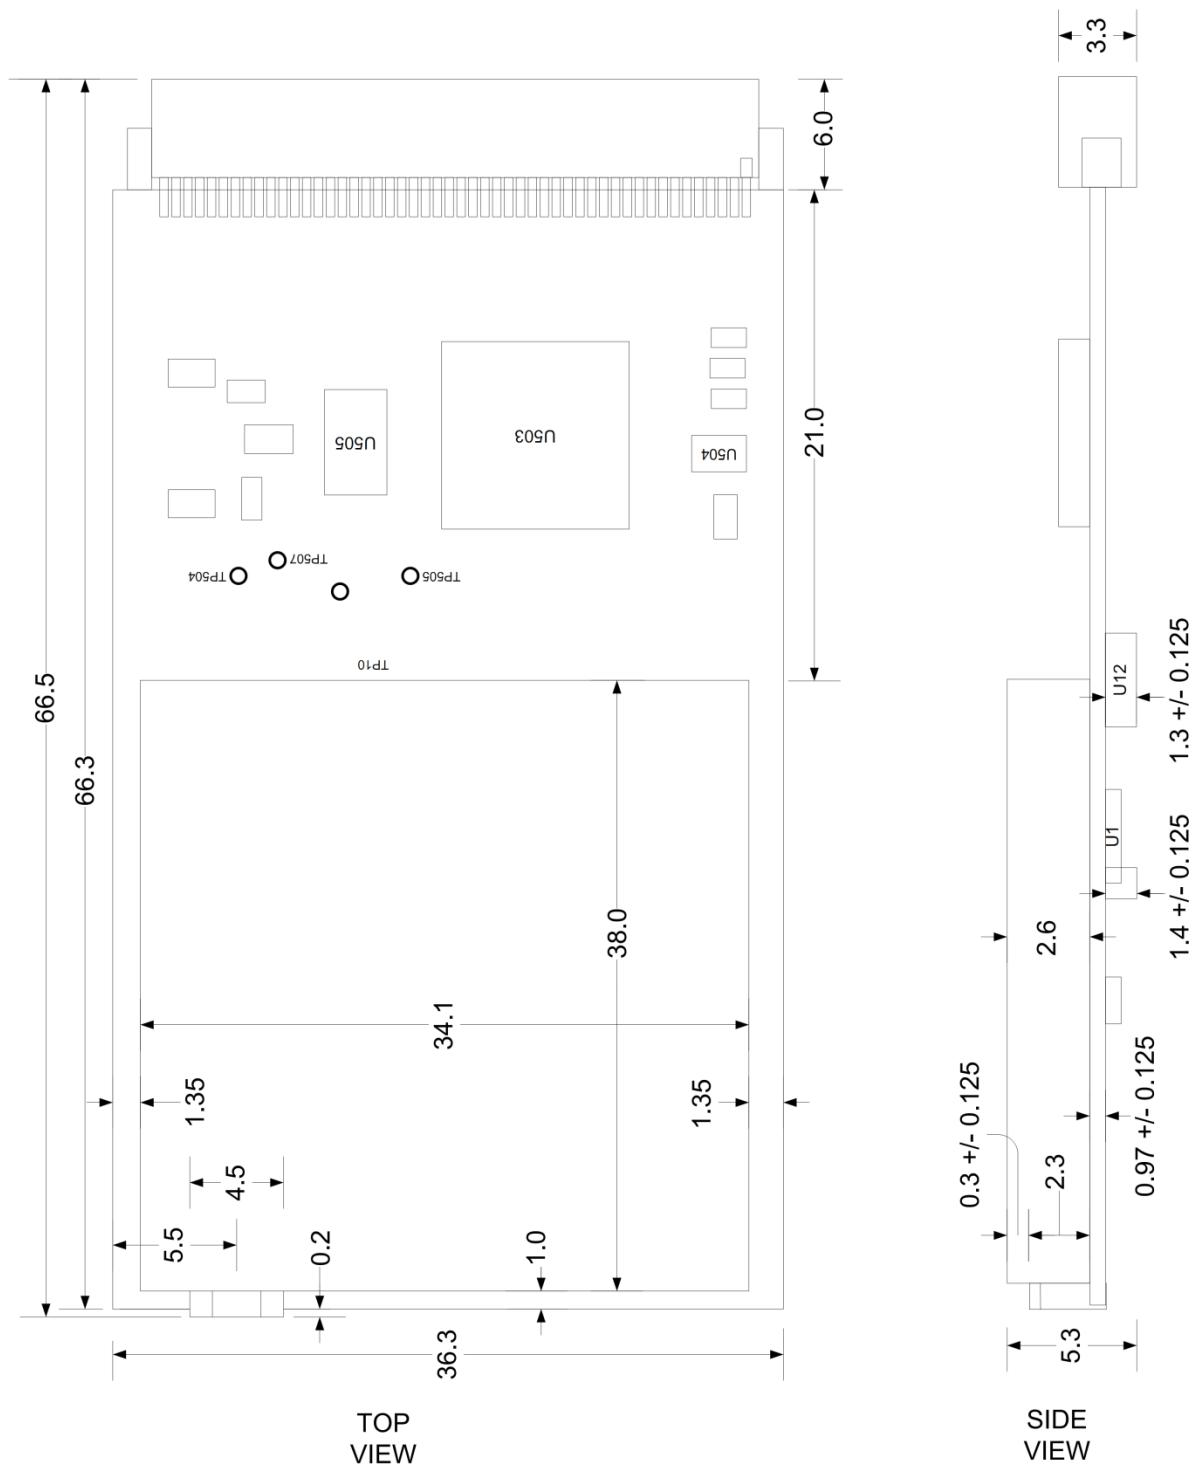

Figure 6-2: SkyeModule M9 Dimensions (CF Variant)
Figure 6-2 shows the dimensions of the compact flash (CF) variant.